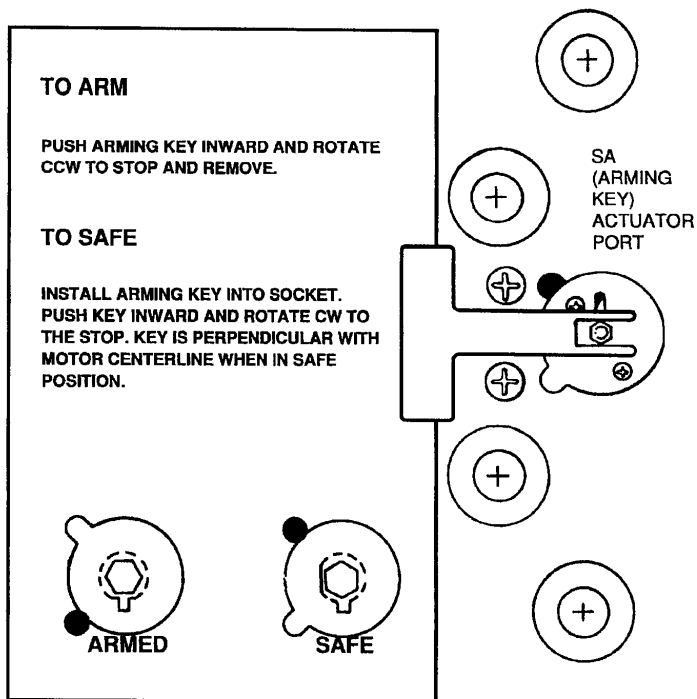

Figure 6. AGM-88 Rocket Motor SAFE/ARM Mechanism
4. Fully depress arming key (Fig. 6)()
2. Insert and fully depress arming key; slowly rotate clockwise to SAFE (Fig. 6)()